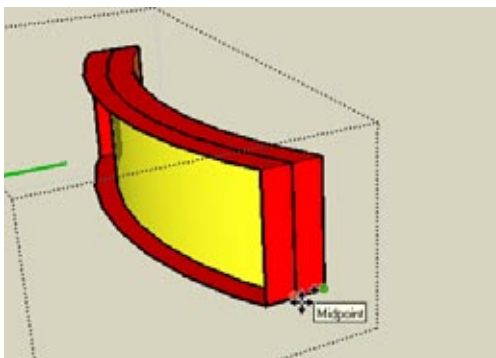

Figure 3-43
12. What if you want the glass to sit in the middle of the frame, not all the way against the back? Open the component and copy the glass face to the midpoint of the frame, as indicated in Figure 3-43. (If you just move the glass instead of copy it, you'll move the limits of the frame, too.)